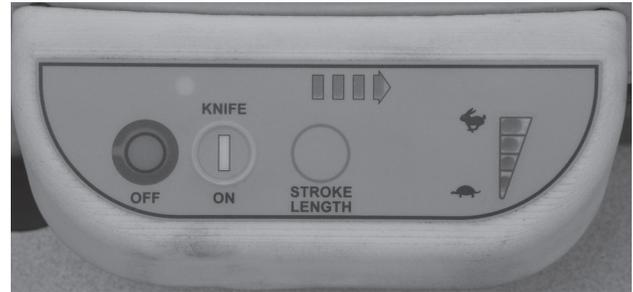

Fig. 5
- Turn the slicer on by pressing the KNIFE ON button (Fig. 5).
- Use the Product Tray Handle (Fig. 1) to push and pull the Product Tray back and forth to slice. When finished, pull the Product Tray forward until it stops. Turn the Index Knob fully clockwise to close the Gauge Plate. This will turn the slicer off. The OFF Button (Fig. 5) can also be pressed to stop the slicer.
- Select one of the four speeds for the Product Tray to move back and forth. Press the Rabbit symbol (Fig. 5) to increase speed; press the Turtle symbol (Fig. 5) to decrease speed. The speed indicator, located to the right of the symbols, shows which speed is selected. The speed can be changed at any time.
- Select a stroke length for the Product Tray to move back and forth. Press the STROKE LENGTH button (Fig. 5) to toggle through the lengths. The indicator above the button shows the length. More lights equal a longer stroke. The stroke length can be changed at any time.
- When finished, turn the Index Knob fully clockwise to close the Gauge Plate or press the KNIFE ON button (Fig. 5) to stop the slicer. This will stop the slicer and return the Product Tray to the home position.